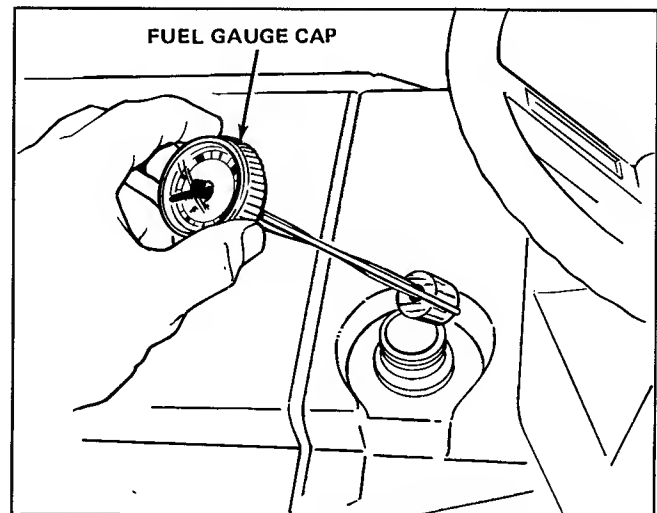

Figure 11. Removing Fuel Cap
- a. Remove fuel gauge cap as shown in figure 11.